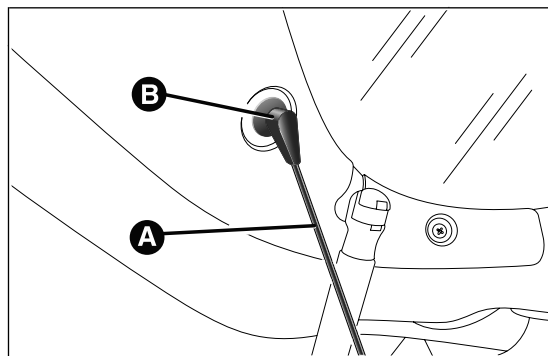

fig. 55
- ☐ free the ends of the two parcel shelf mounting links A fig. 55 by removing the eyelets B from the mounting pins;